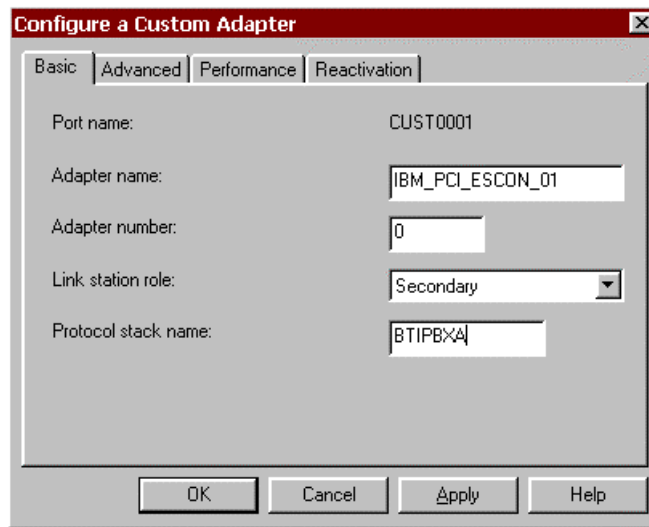

Figure 11-4. Configure a Custom Adapter
3. The **Configure a Custom Adapter** dialog will appear (Figure 11-4). Note that the **Reactivation** tab is new in version 4.